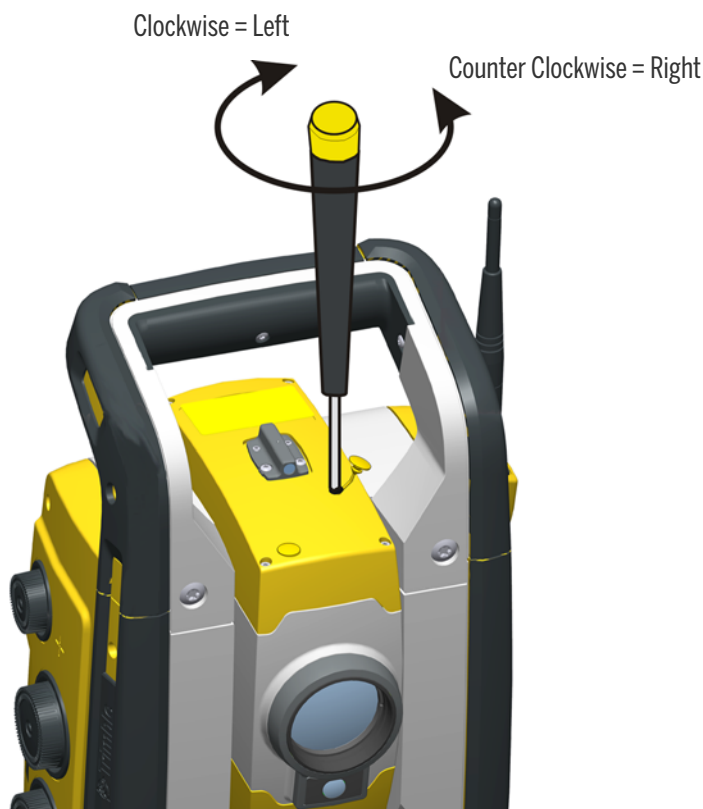

Figure 3.16 Horizontal position adjustment
3. To correct the horizontal position of the laser spot, insert the allen key into the horizontal adjustment port and turn it as shown in Figure 3.16.